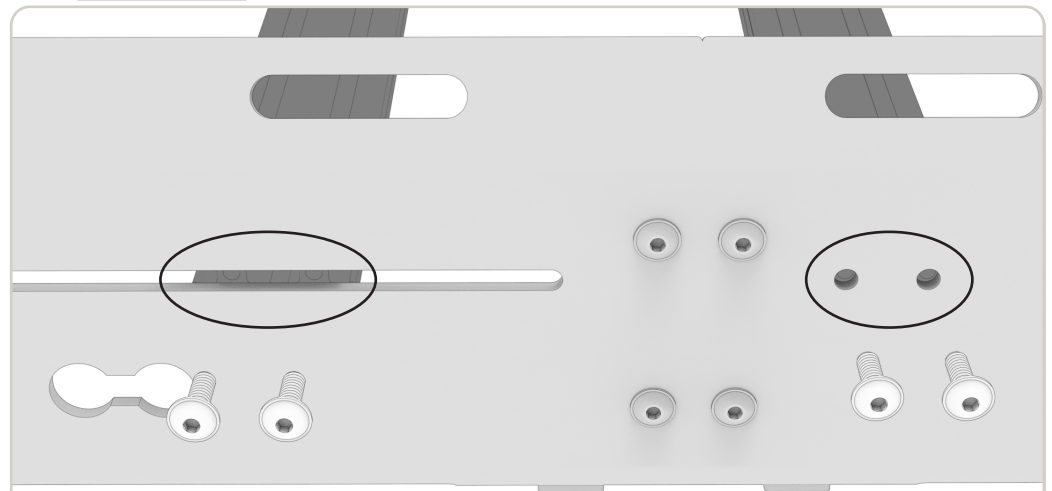

FIG 9
**NOTE -** Keep in mind the layout of your roof top array (solar panels, fans, tents, etc.) You can mount crossbars in the set pair of holes (**FIG 9**), or you can place them in the slots which provides you more freedom of layout.